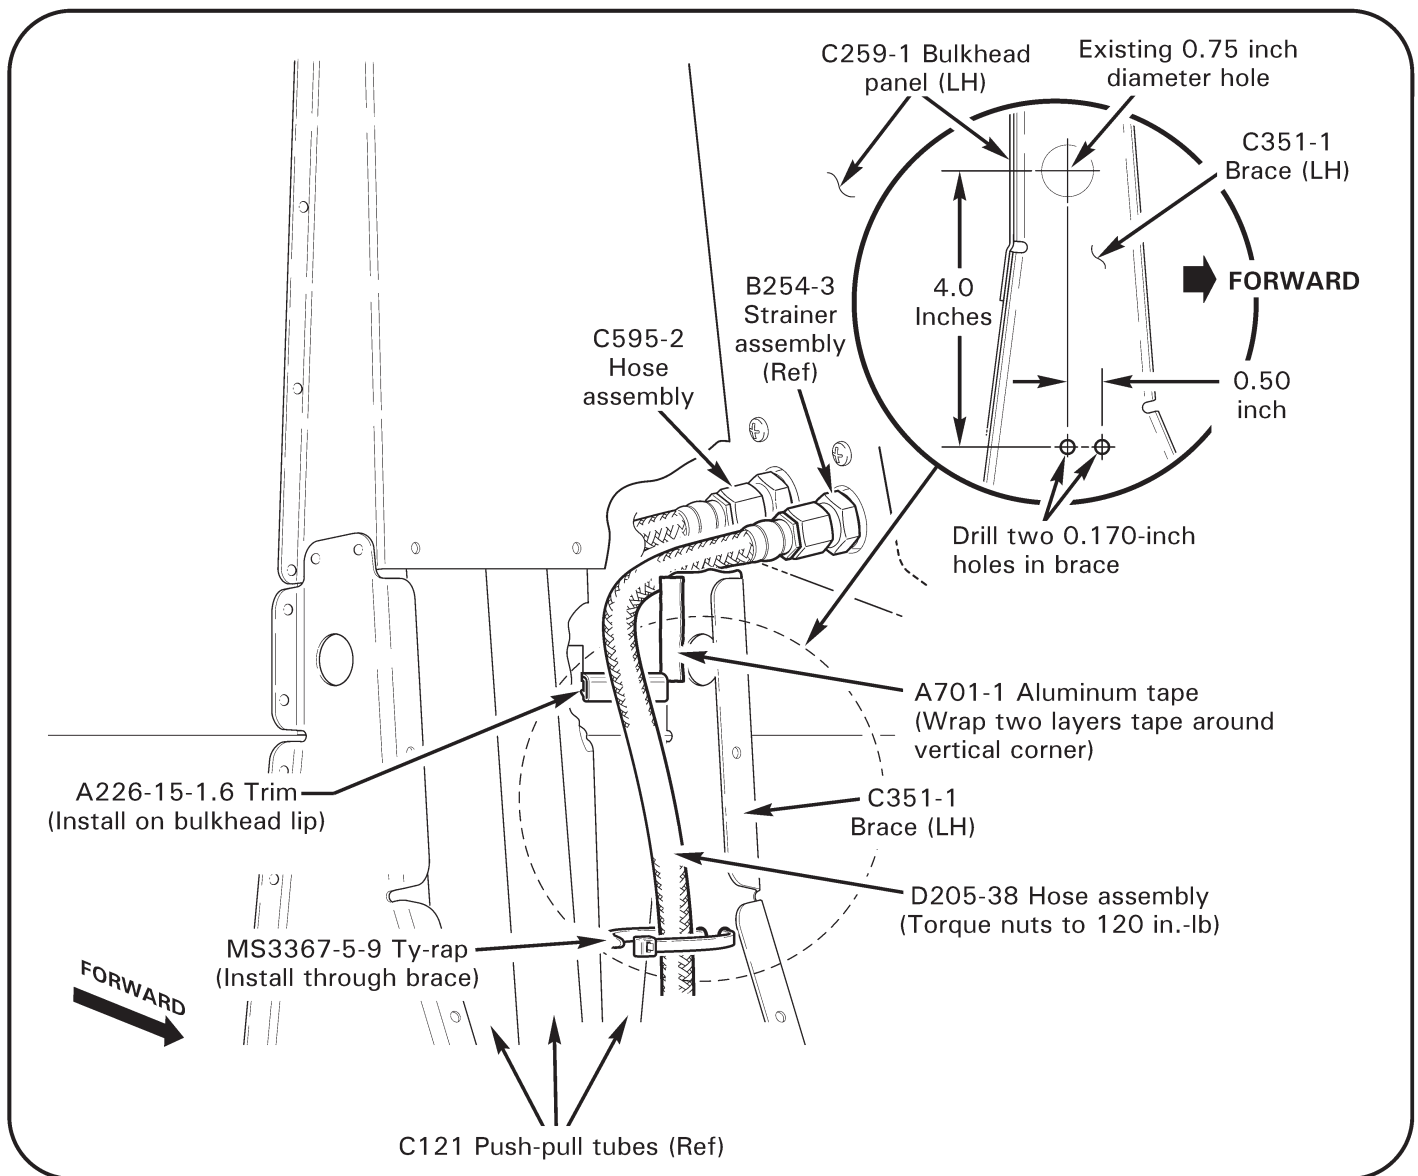

FIGURE 1
53. Install (3) aft screws securing main tank to intermediate bulkhead.
54. From aft left seat, gently lift foam and install (4) screws securing main tank to cabin bulkhead.
55. Refer to Figure 9. Connect new D205-38 hose assembly to main tank outlet (forward fitting) and fuel shut-off valve. Special torque hose nuts to 120 in.-lb and torque stripe per MM Figure 2-1. Install MS3367-5-9 ty-rap around hose thru drilled holes in C351-1 brace (Figure 1). Cinch ty-rap until snug without over-tightening, and trim tip flush with head.